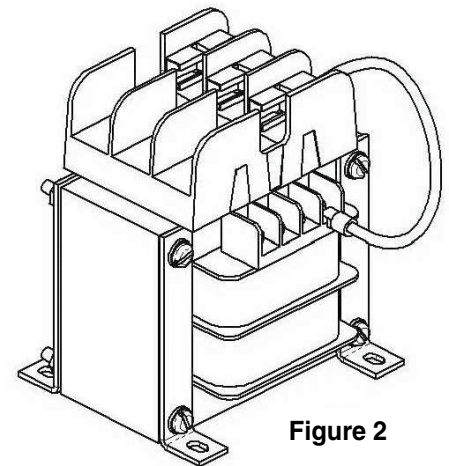

Figure 1
1. To attach secondary fuse kit PL 112603 to primary fuse kits PL112700 thru PL112705 snap the secondary single pole fuse block onto the unlabeled side of the primary double pole fuse block. (See Figure 1)